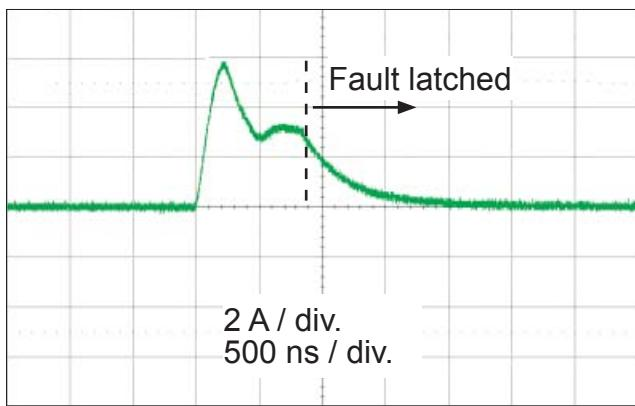

Figure 6. Short-to-ground event
**Short-to-Ground** Should a motor winding short to ground, the current through the short will rise until the overcurrent threshold,  $I_{COPST}$ , a minimum of 2 A, is exceeded. The driver turns off after a short propagation delay and latches the fault. The device will remain disabled until the SLEEP/RESET input goes high or VDD power is removed. As shown in figure 6, a short-to-ground produces a single overcurrent event.